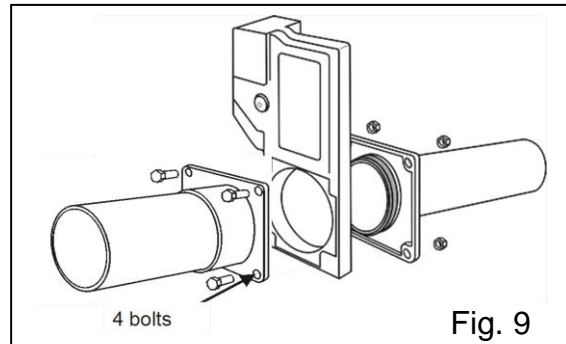

Fig. 9
Step 10: Ref **Fig. 9:** Install the four bolts and hand tighten Use a 7/16” wrench and in a crisscross pattern, snug the nuts down ¼ turn at a time. Tighten the four bolts evenly, being careful not to over tighten. The components are plastic and can crack. The tightening spec is 20 inch pounds.